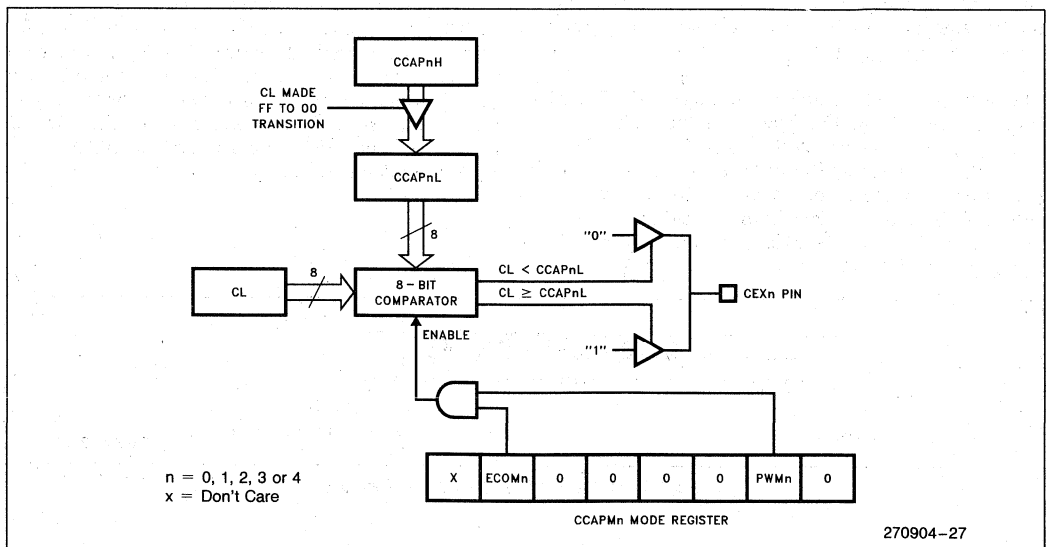

Figure 22. PCA 8-Bit PWM Mode
The PCA generates 8-bit PWMs by comparing the low byte of the PCA timer (CL) with the low byte of the module's compare registers (CCAPnL). Refer to Figure 22. When $CL < CCAPnL$ the output is low. When $CL \geq CCAPnL$ the output is high. The value in CCAPnL controls the duty cycle of the waveform. To change the value in CCAPnL without output glitches, the user must write to the high byte register (CCAPnH). This value is then shifted by hardware into CCAPnL when CL rolls over from 0FFH to 00H which corresponds to the next period of the output.